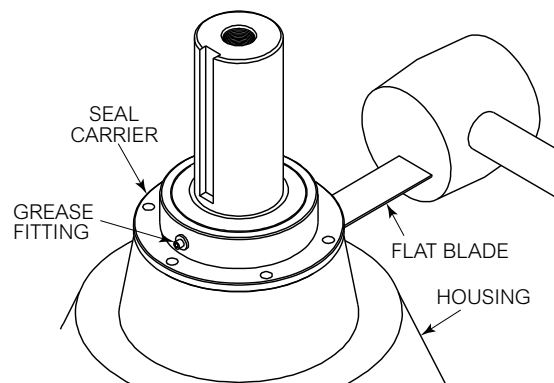

Figure 6.2.1 Separation of Seal Carrier from Hub
4. Using a flat blade and a hammer, break the seal between the seal carrier assembly and the input or output housing; reference **Figure 6.2.1**.